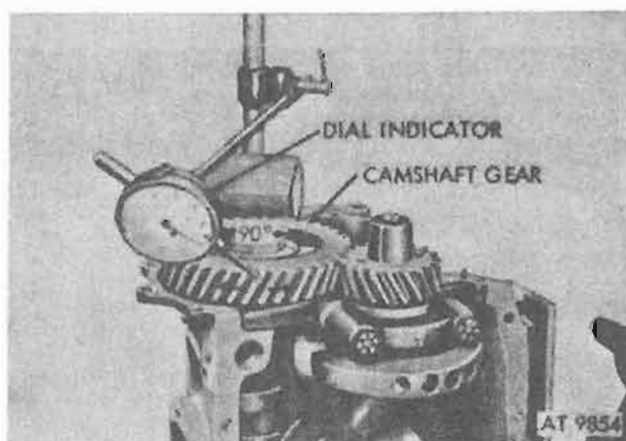

Figure 4-101. Measuring timing gear backlash.
b. **Timing Gear Backlash** (fig. 4-101). Place dial indicator on cylinder block with indicator tip against one of the camshaft gear teeth at right angle to helical gear tooth. Move gear from left to right to the limits of its play and record. Be sure to hold gear firmly toward block so that end play will not be indicated as backlash. Refer to repair standards (table 4-8).